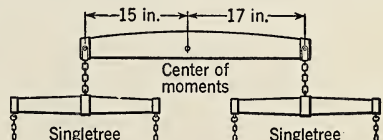

FIG. 188. The doubletrees furnish an example of parallel forces when used as an eveners.
6. The doubletrees of Fig. 188 are 32 in. long. If a hole is bored 15 in. from one end, how many pounds does each horse pull, if hitched as shown in the figure to a load of 480 lb.?